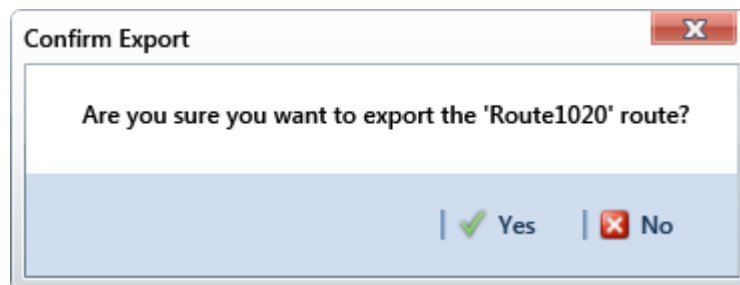

Figure 8-76. Confirm Export
- Click **Yes** in the *Confirm Export* dialog box (Figure 8-76).